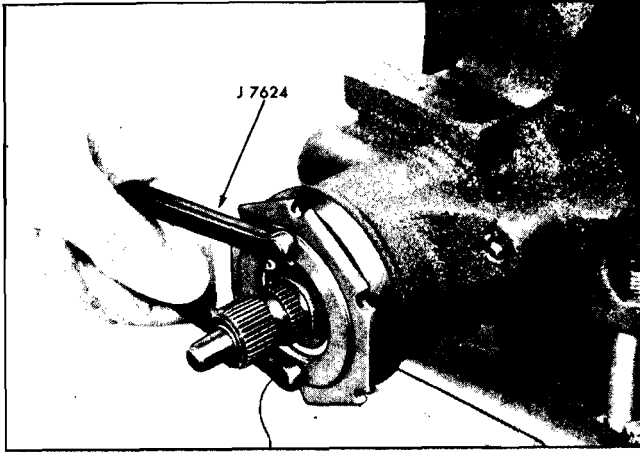

Fig. 9-60 Removing Adjuster Plug Assembly
3. Remove adjuster plug assembly, using a spanner as shown in Fig. 9-60.